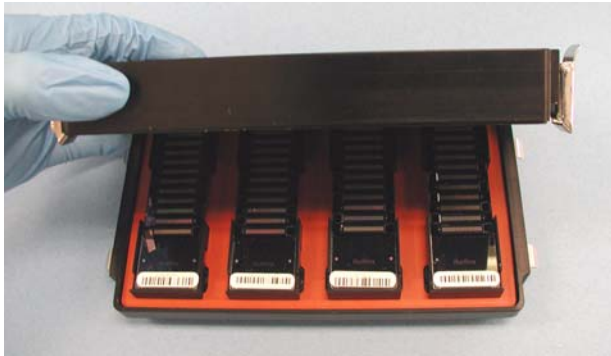

Figure 122 Seating Lid onto Hyb Chamber
6. Position the lid onto the Hyb Chamber by applying the backside of the lid first and then slowly bringing down the front end to avoid dislodging the Hyb Chamber inserts (Figure 122).